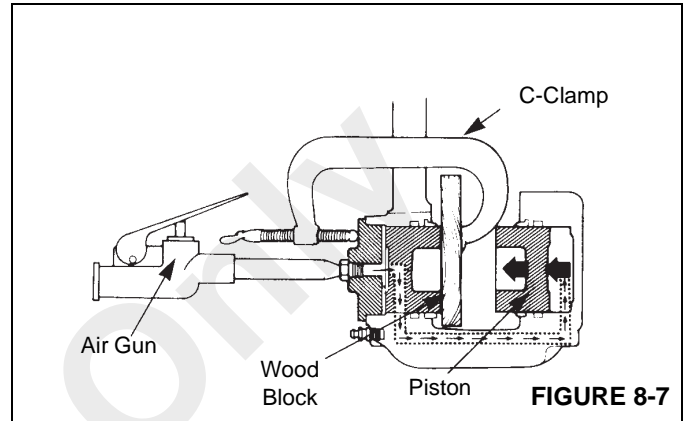

FIGURE 8-7
- b. Apply compressed air to the inlet fitting to force the pistons out of the other housing. If one piston comes out before the other piston, put a piece of wood in front of the piston that comes out first. Apply compressed air to force the other piston out of the housing (Figure 8-7).